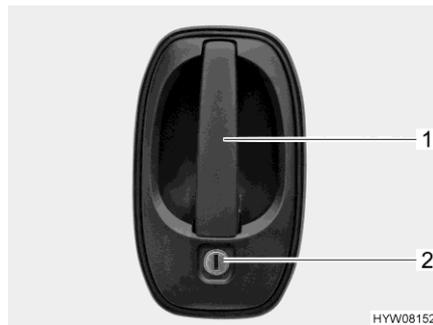

Fig. 49 Door lock (driver's door/conversion door, outside)
- Insert the key into locking cylinder (Fig. 49,2) and turn until the door lock is unlatched.
- Pull on the door handle (Fig. 49,1). The door is open.
- Insert the key into locking cylinder (Fig. 49,2) and turn until the door lock is engaged.